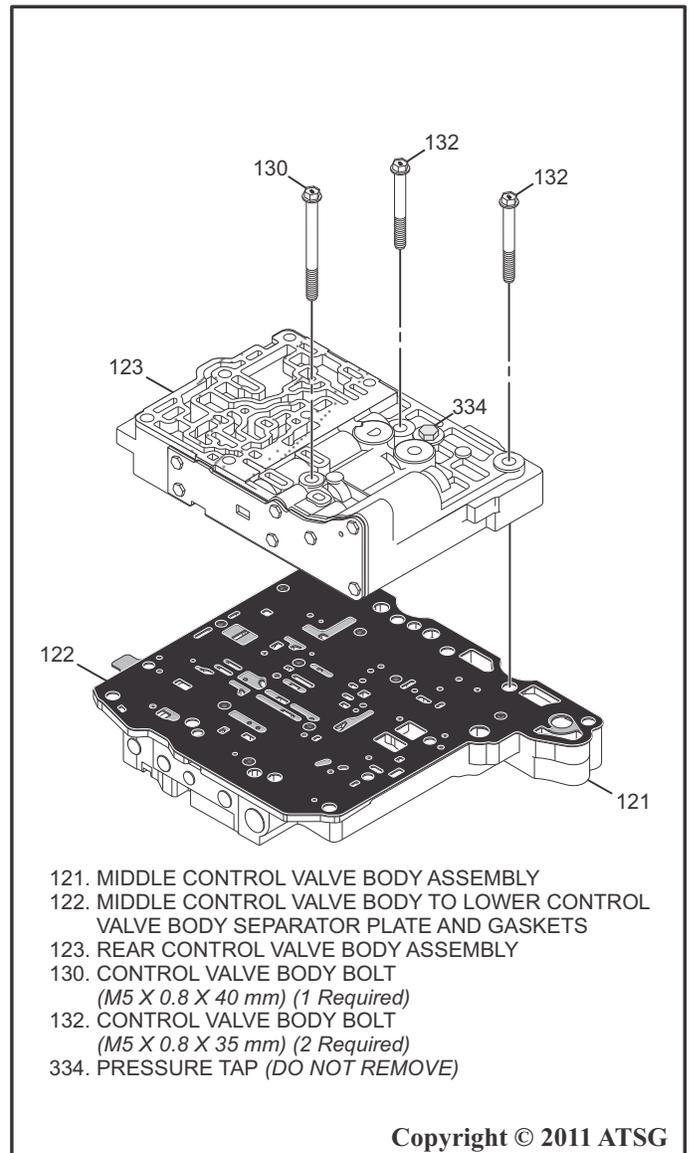

Figure 169
40. Align the bolt holes in the separator plate with the bolt holes in the middle control valve body then lower the rear control valve body onto the separator plate and thread the three control valve body attaching bolts and hand tighten only as shown in Figure 169.